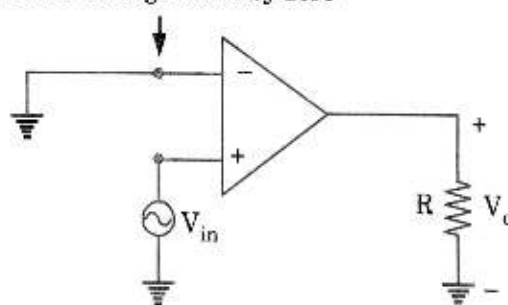

Fig. 2.14.2. Non-inverting zero crossing detector.
1. In a non-inverting zero crossing detector, the Op-Amp is used in open loop configuration. Inverting terminal of the Op-Amp is grounded and input is applied to the non-inverting terminal. The circuit is shown in Fig. 2.14.2.